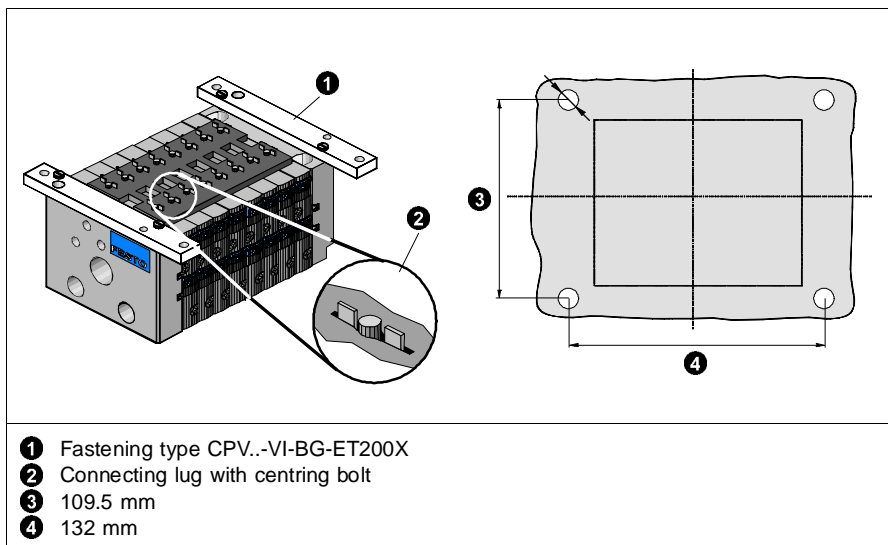

Fig. 2/7: Dimensions for fitting onto the SIMATIC ET200X
1. The fastening is already fitted to the CPV valve terminal. Check that the flat seal is placed correctly over the connecting lugs and the centring bolts between them (see Fig. 2/7).